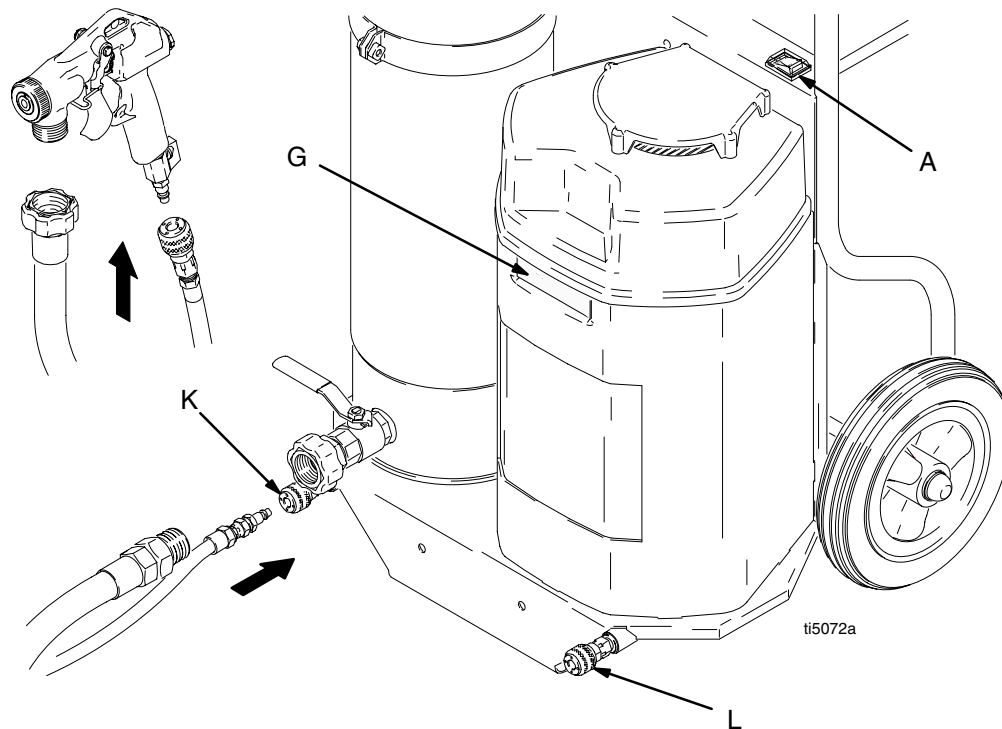

Fig. 7
See Fig. 7
To reduce the risk of serious bodily injury due to the system restarting unexpectedly, always turn the ON/OFF switch (A) OFF if the motor shuts down. See Fig. 7.